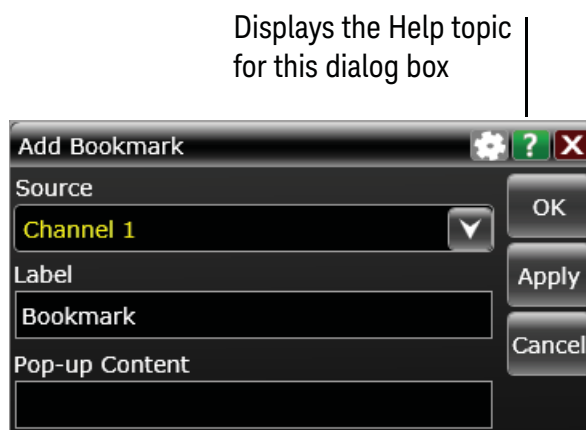

Figure 20 Help button for dialog box Help
- Click the question mark near the top right corner of a dialog box to open the help topic for that dialog box (Figure 20).